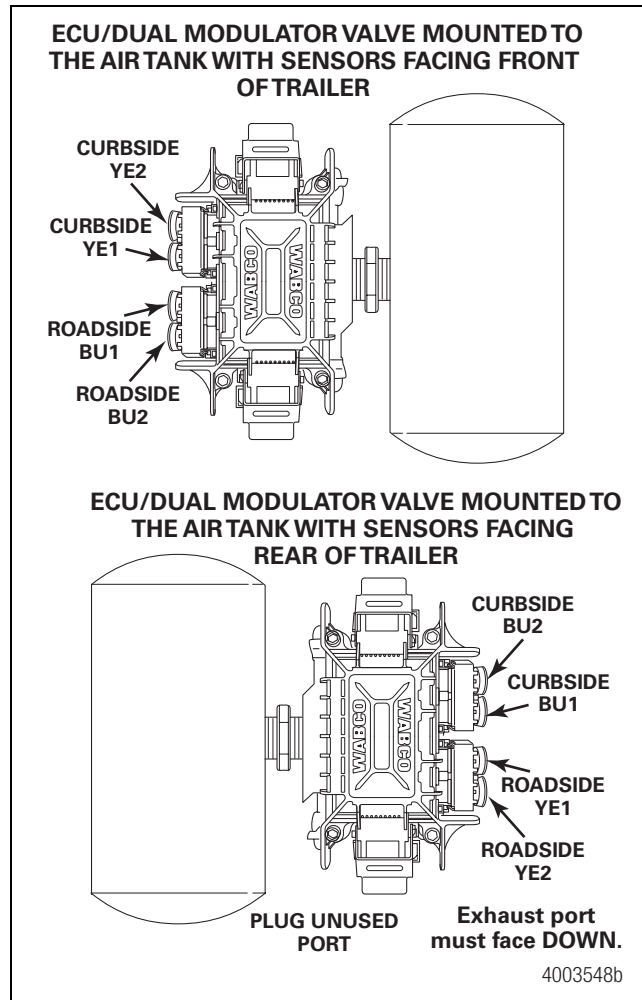

Figure 2
3. Rotate and tighten the ECU/dual modulator valve assembly until the exhaust port faces DOWN and the connection is secure. Use a torque wrench or ratchet with an extension at the 3/4-inch pipe plug installed on the front supply port. Figure 2.